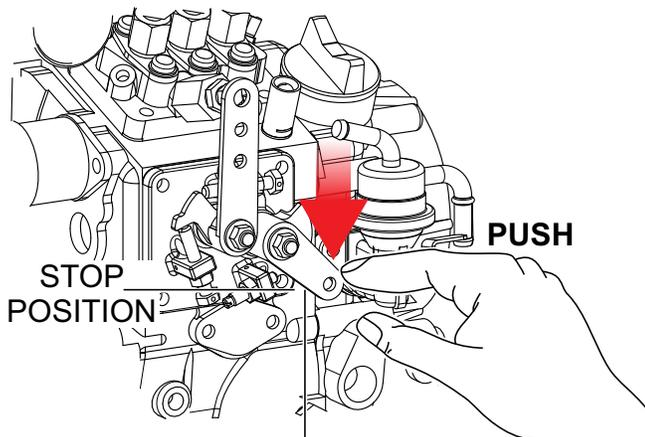

Figure 31. Engine Stop Lever
2. Place engine stop lever (Figure 31) in the **STOP** position. Continue pushing stop lever until the engine has completely stopped.